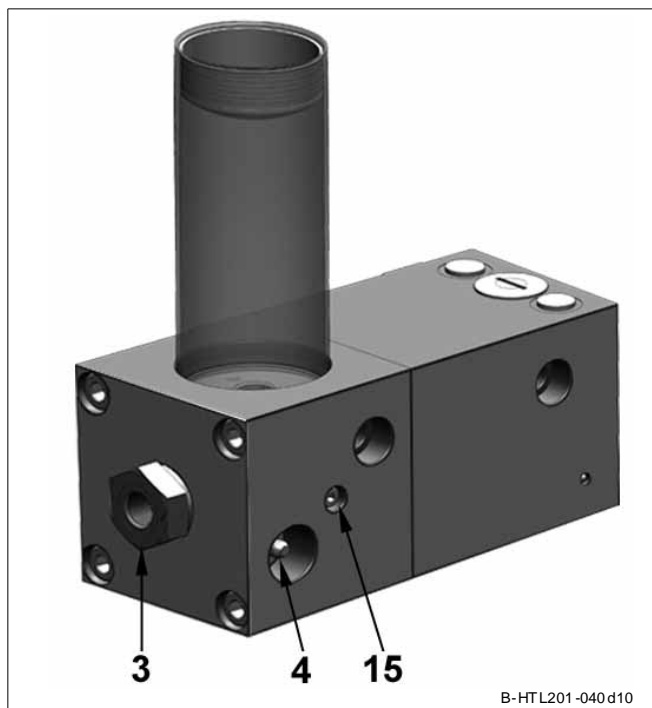

Fig. 4-9 Insert cartridge into the lubrication pump HTL 201
- Insert the cartridge in the bore by lightly pressing and screw it into the housing (presented as in Fig. 4-9) hand-tightly.
- Close housing with cylinder head screw 15 (Fig. 4-9) again
*If afterwards the pump does not dispense lubricant immediately, vent the housing (see paragraph "vent housing", Fig. 4-9).*